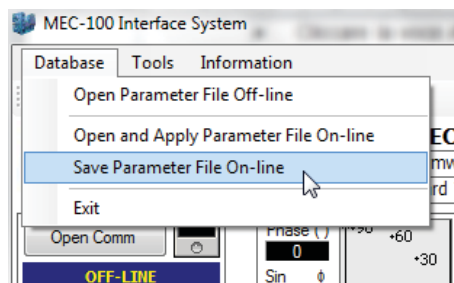

Fig. 5.6.1.a
- Click the *Database* button in the menu bar of the MEC-100 Interface System (see Fig. 5.6.1.a).